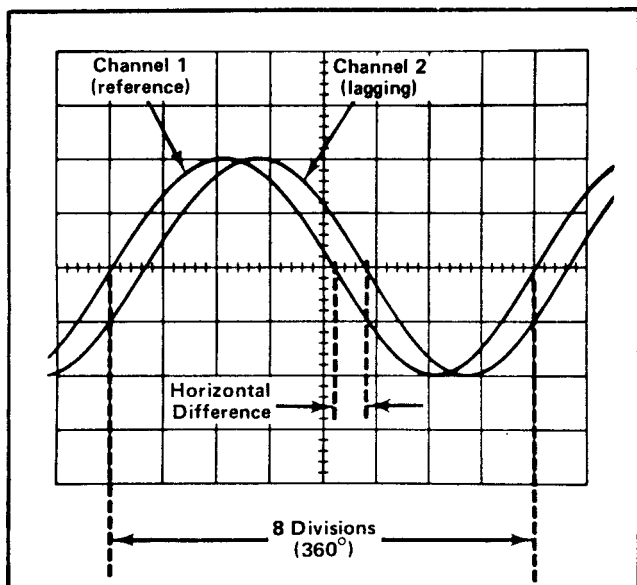
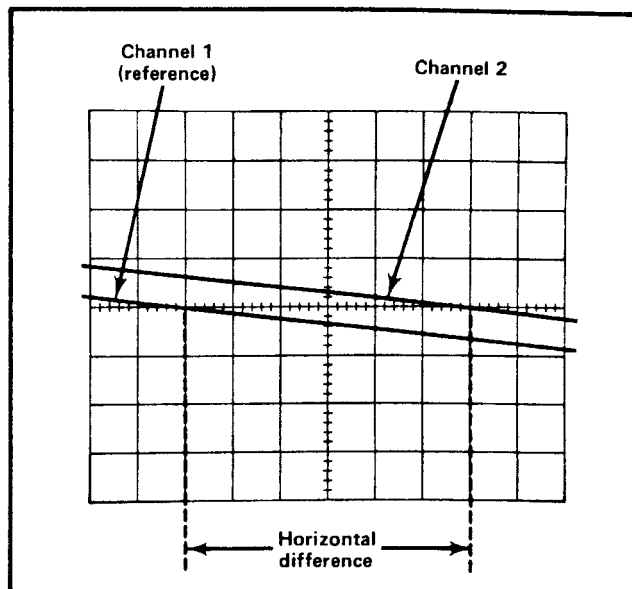

Fig. 2-12. Measuring phase difference.
Fig. 2-13. High resolution phase-difference measurement with increased sweep rate.
10. Turn the Variable TIME/DIV control until one cycle of the reference signal (Channel 1) occupies exactly eight divisions between the second and tenth vertical lines of the graticule (see Fig. 2-12). Each division of the graticule represents  $45^\circ$  of the cycle ( $360^\circ \div 8 \text{ divisions} = 45^\circ/\text{division}$ ). The sweep rate can be stated in terms of degrees as  $45^\circ/\text{division}$ .
**EXAMPLE.** Assume a horizontal difference of 0.6 division with a sweep rate of  $45^\circ/\text{division}$  as shown in Fig. 2-12.
$45^\circ/\text{division} \div 10 = 4.5^\circ/\text{division}$ . Fig. 2-13 shows the same signals as used in Fig. 2-12 but with the MAG switch set for 10X magnification. With a horizontal difference of six divisions, the phase difference is: